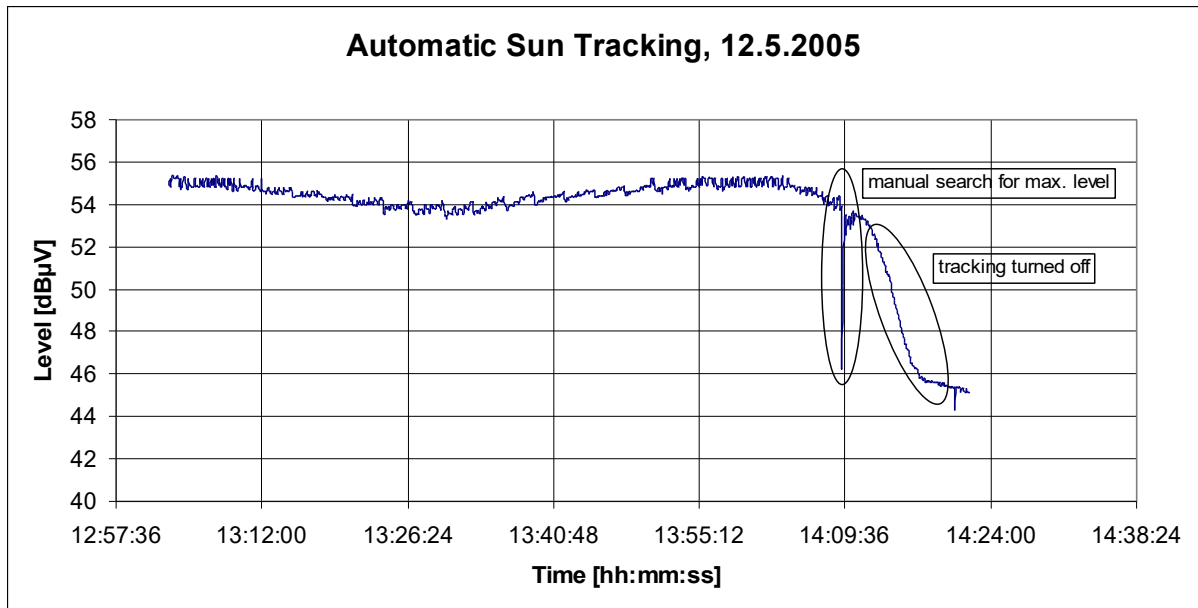

Figure 24 Result for automatic Sun tracking
- Manually search the AZ/EL position for maximum signal level to confirm that the tracking was successful (See Figure 24.)